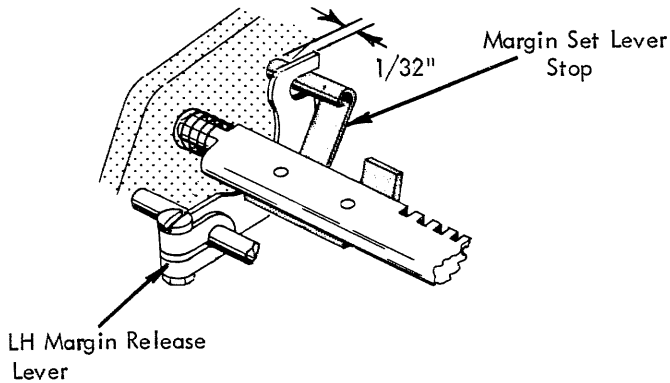

FIGURE 178. Margin Rack (Late)
1. Laterally so that $1/32''$ of the rolled pin on the margin release lever (Fig. 178).
- b. Late - Position the margin set lever stop (Fig. 178) left or right on the margin rack so that it will clear the margin stop by $.001''$ to $.010''$ when the margin stop pin is fully seated in the extreme left hand tooth of the margin rack.